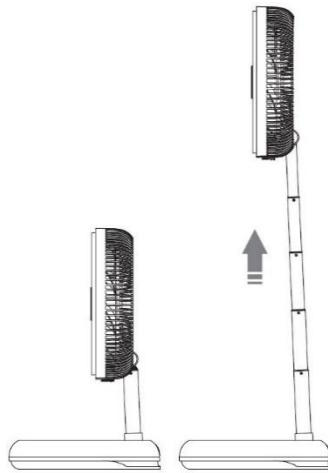

Figure 5
- The vertical height of this fan could be adjusted by pulling up the telescopic rod or the neck (Figure 5).